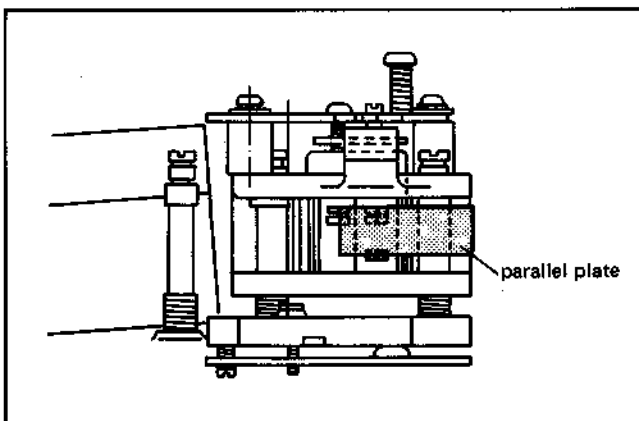

Fig. 1-25
- 1) Place the parallel plate SL-0657 on No. 5 guide and audio/CTL head. (Fig. 1-25)